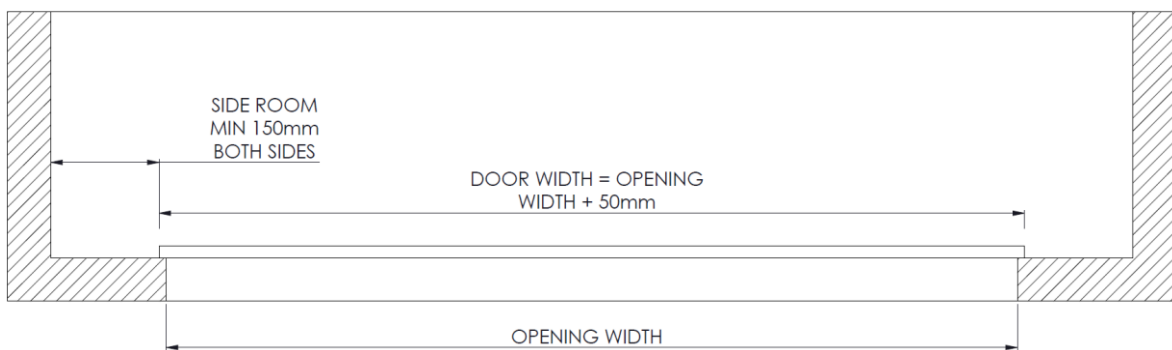

Figure 2
1. Check opening height and door size. (Figure 2)